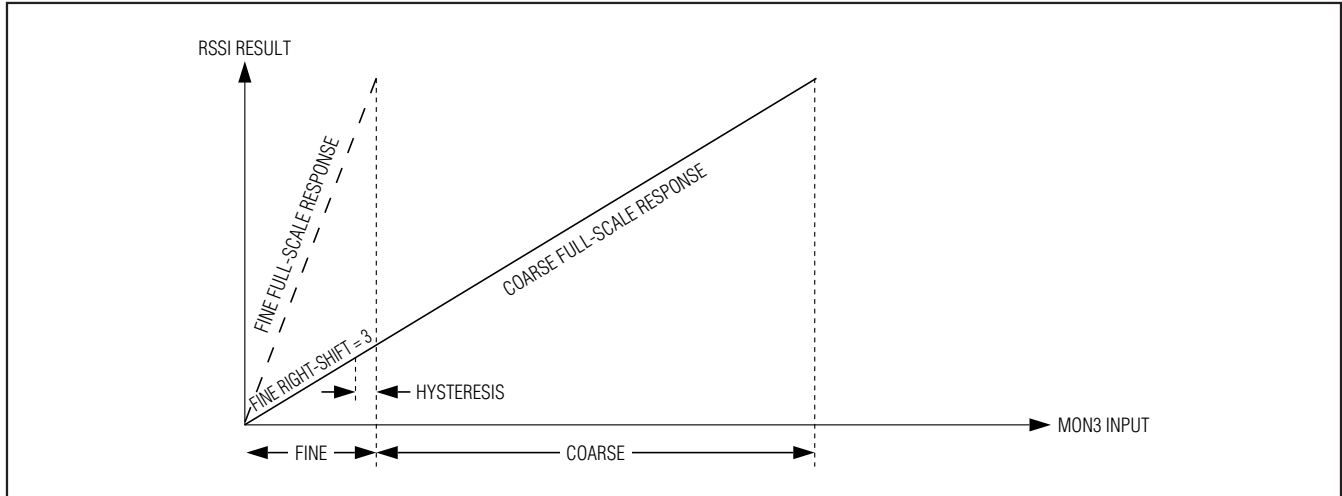

Figure 9. RSSI with Crossover Disabled
- Crossover Disabled:** The crossover disabled mode is intended for systems with a linear relationship between the MON3 input and desired ADC result. The ADC result transitions between the fine and coarse ranges with hysteresis (Figure 9). In crossover disabled mode, the thresholds between coarse and fine mode are a function of the number of right-shifts being used. With the use of right-shifting, the fine-mode full scale is programmed to (1/2ⁿth) of the coarse-mode full scale. The device now auto ranges to choose the range that gives the best resolution for the measurement. Table 4 shows the threshold values for each possible number of right-shifts.